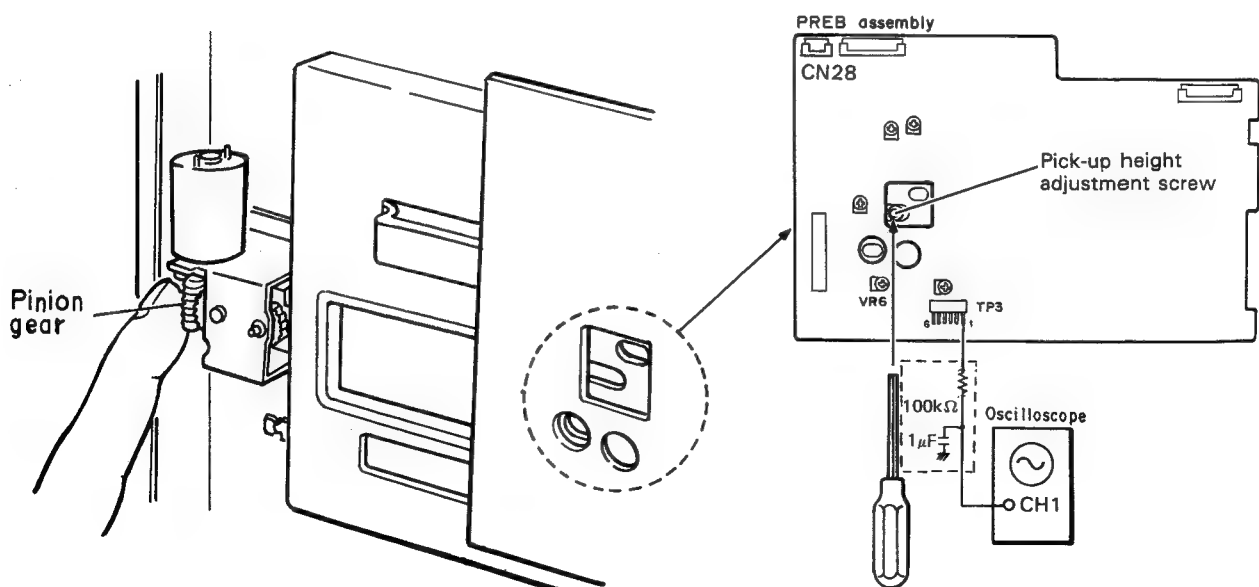

Fig. 3
5. Perform levelness adjustment by rotating the pinion gear of the tilt motor with your finger, so that the focus return voltage described above becomes the same value at the inside and outside of the disc. (Fig. 3)